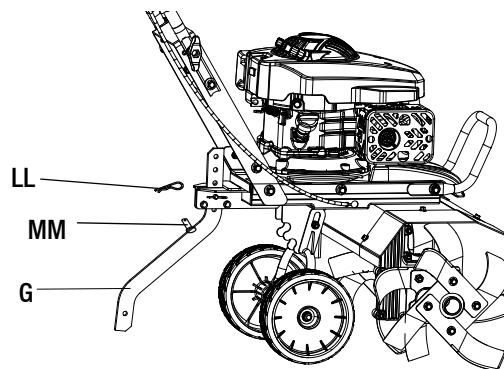

Figure 1-3
- Insert the depth regulator to the holder, choose the proper height, and then lock the depth regulator (G) with a clevis pin (MM) and cotter pin (LL). See Figure 1-3.